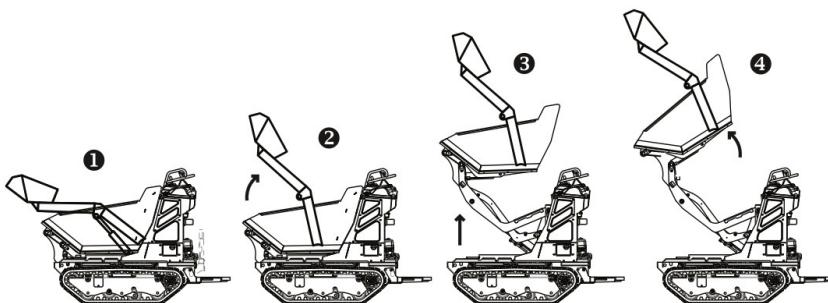

fig. 4.10 – Position for High Discharge (HAC)
3. **WITH THE MACHINE STOPPED**, raise the skip to the desired height by pushing the lifting lever forward (❷ - see fig.4.10).
3. Pull the self-loading device lever backward to its full stroke to raise the bucket (2 – see Fig. 4.10).
4. Raise the skip to the desired height by pushing the lifting lever forward (3 – see Fig. 4.10).